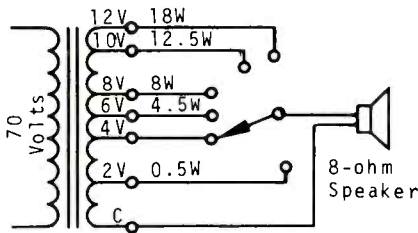

Fig. 4—Example of level control by speaker-driving-voltage selection.
equal to the square root of impedance (8) times watts (12.5). This requires the use of a 7:1 voltage step-down transformer, connected across the line, as shown in Fig. 4.